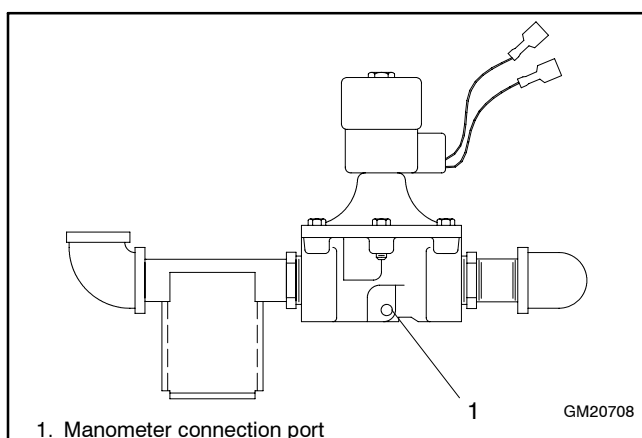

Figure 5 Solenoid Fuel Valve Manometer Port
3.1 Remove the 1/8 NPT pipe plug from the solenoid fuel valve located at the generator set fuel inlet connection. See Figure 5.